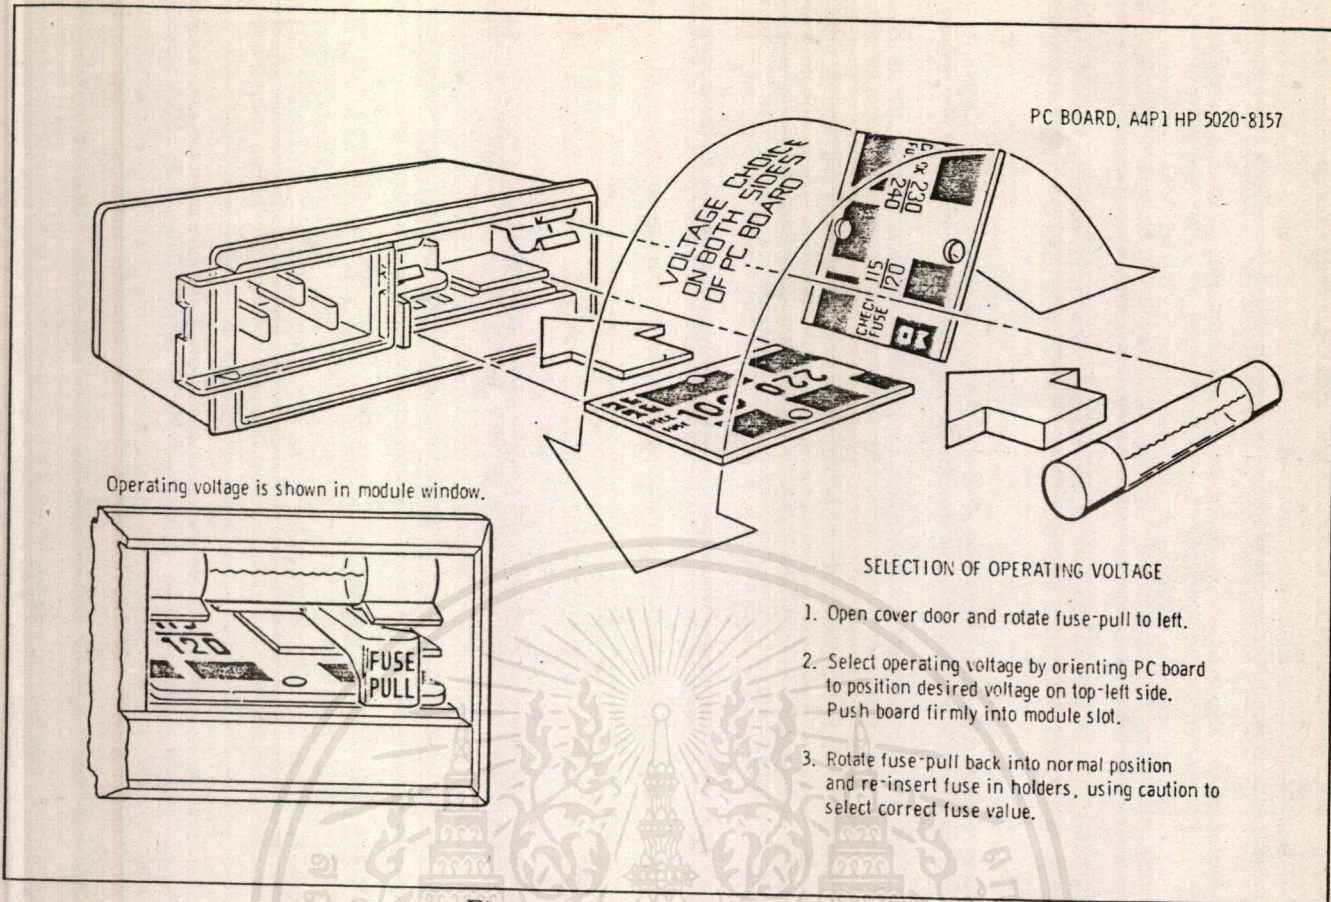

Figure 3. Line Voltage Selection
19. Figure 3 provides instruction for line voltage and fuse selection. The Line Voltage Selection Card and fuse are factory installed for 120 Vac operation.
36. Maintenance by the operator consists of changing the fuse (refer to Figure 3), and LINE switch lamp replacement (refer to Figure 5).
- 9 Line Voltage Selection Card. Matches transformer primary to line voltage. Refer to Figure 3.
- a. Verify that the power transformer primary of the 11683A is matched to the line voltage. See Figure 3.
- b. Check the fuse, contained in the Power Module Assembly, for the correct rating. The voltage and amperage are shown on the rear panel. If necessary, change the fuse. See Figure 3.